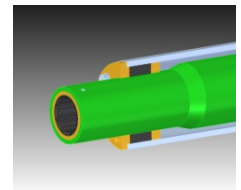

Fig. 7
- Tighten the allen screws of this ClampSeal as well, also in diagonal opposite order 1/2 turn at a time, until they are hand-tightened (Fig. 7).